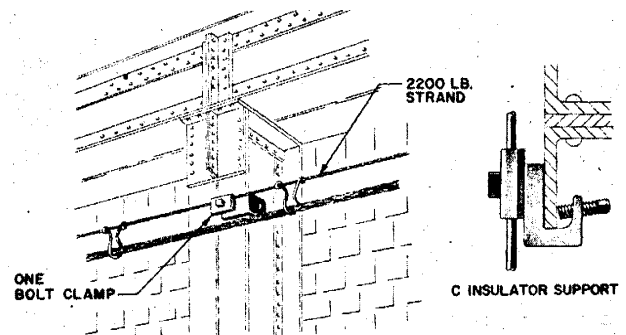

Fig. 10 - C Insulator Support and One Bolt Clamp
- C insulator support (Fig. 10) will accommodate T knobs, one bolt clamps, and B or M bridle rings. It can be attached to steel structures up to 1 inch in thickness.